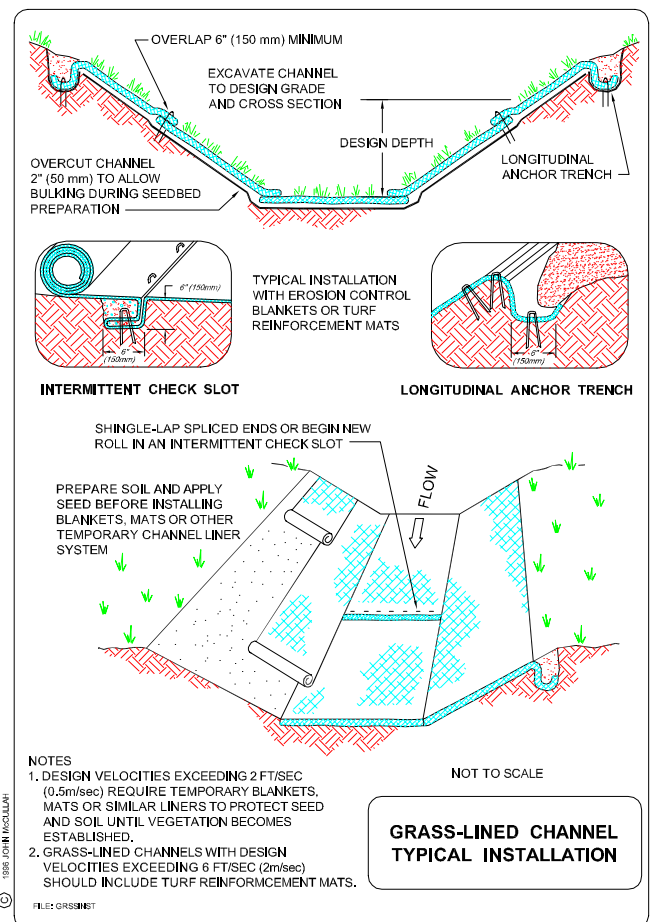

Figure 3 Channel Stabilization with Filter Blanket (Erosion Draw)
*Where water velocities are above 2 m/sec on a constructed ditch, it may be necessary to install erosion control blankets or turf reinforcement mats under the riprap to ensure stability. Figure 3 provides information on installation of riprap and filter blankets for the stabilization of ditch banks.